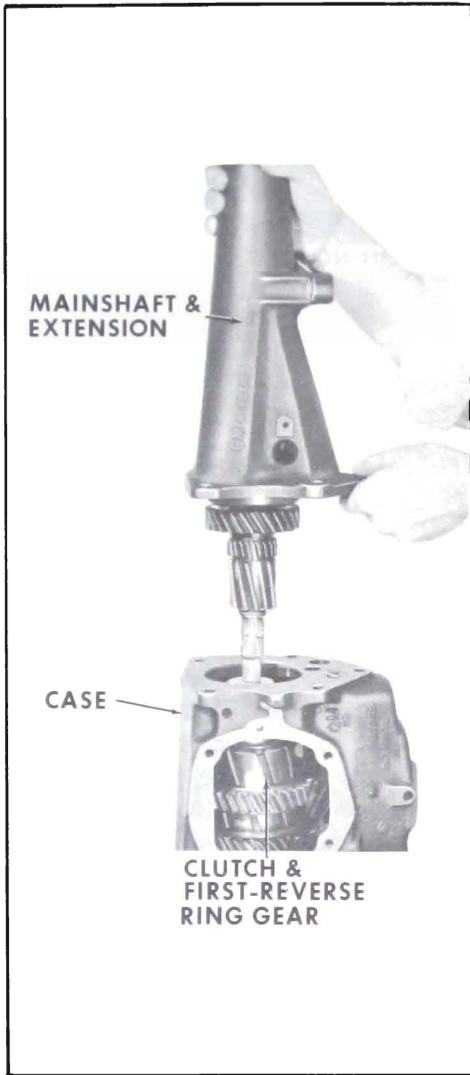

Figure 4-20—Mainshaft Removal
2. Remove extension-to-transmission case bolts and lock washers. Pull extension and mainshaft assembly from transmission case, leaving second and third speed clutch assembly and first-reverse ring gear in the case. Do not force the mainshaft. If necessary, rotate the second-third speed clutch slightly to aid removal. See Figure 4-20.